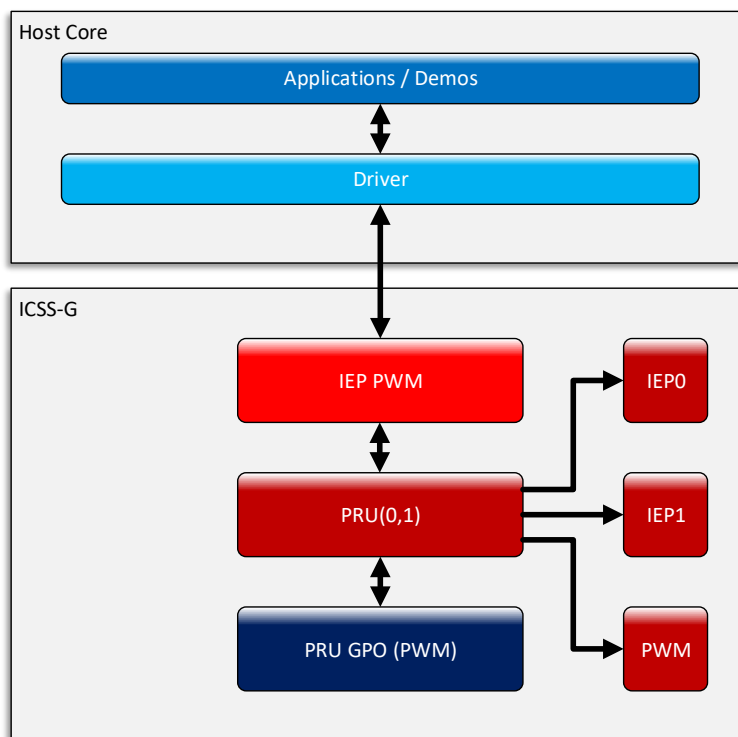

Figure 1. Host & Firmware Design Layers
The IEP PWM PRU firmware (FW) provides Host application/driver software access to the PRU_ICSSG PWM module. The FW implements a Host API which abstracts the PWM module hardware. This abstraction simplifies utilization of the PWM module by Host application/driver software since details of PWM hardware configuration and servicing are hidden by the Host API. Figure 1 shows the Host & FW design layers.